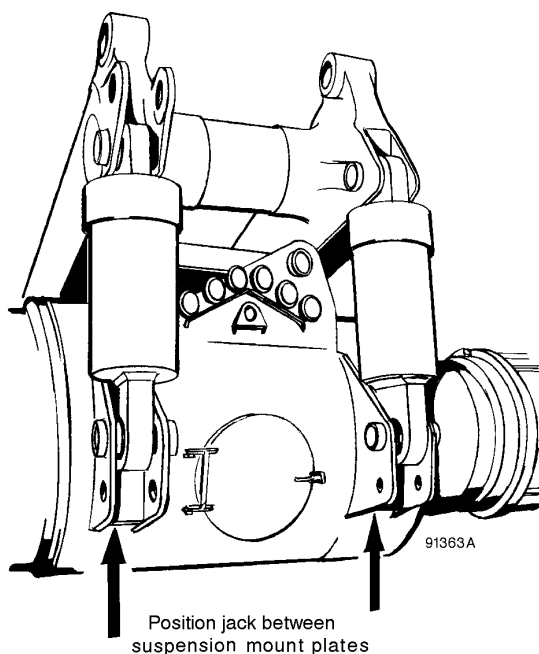

FIGURE 2-4. REAR AXLE JACK LOCATION
1. Park the truck on level ground and block the front wheels. Position a jack under the rear suspension mounting plates as shown in Figure 2-4.